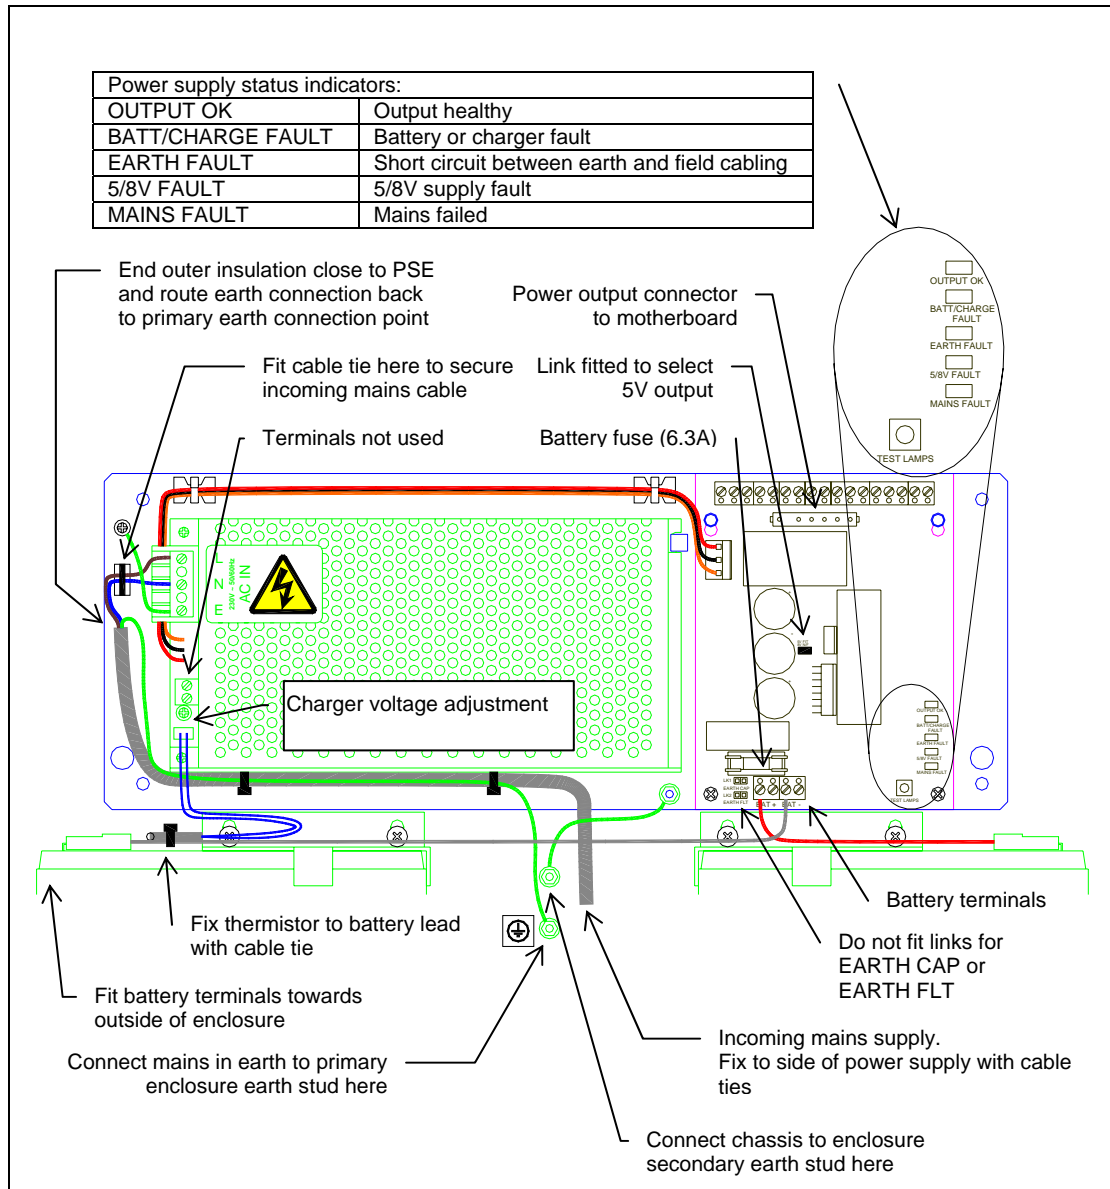

Figure 7 – 32/96 Zone, 40 character Discovery power supply layout
18. Connect the mains-in earth to the primary earth point on the backbox indicated in Figure 7. This is the lower of the two earth studs by the mains entry hole labelled  .
21. Connect the mains-in live to the mains terminal block on the power supply as indicated in Figure 7.
22. Connect the mains-in neutral to the mains terminal block on the power supply as indicated in Figure 7.
25. Place the left battery into the bottom of the panel. The terminals should be positioned to the left of the enclosure and the battery adjacent to the left side of the backbox. This is shown in Figure 7.
26. Place the right battery into the bottom of the panel. The terminals should be positioned to the right of the enclosure and the battery adjacent to the right side of the backbox. This is shown in Figure 7.
28. Connect the black battery lead to one of the negative battery terminals on the p.s.e. The position is shown in Figure 7. Push the connector on the other end of the lead onto the negative (black) terminal of the left-hand battery.
29. Connect the red battery lead to one of the positive battery terminals on the p.s.e. The position is shown in Figure 7. Push the connector on the other end of the lead onto the positive (red) terminal of the right-hand battery.
Figure 7 shows the layout of the Discovery panel power supply. The supply should be earthed as illustrated.